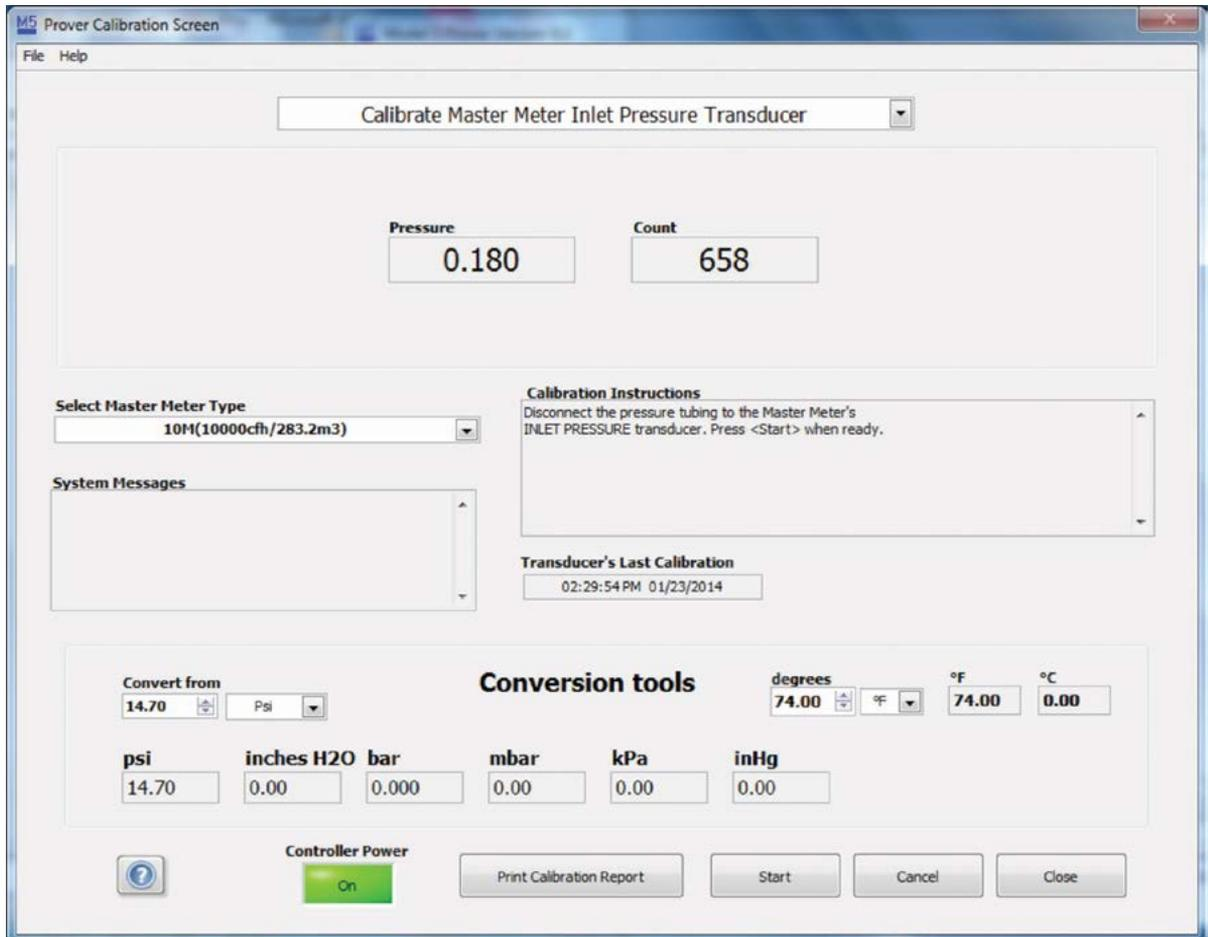

Figure 127: Select Calibrate Master Meter Inlet Pressure Transducer Selection
1. From the Prover Calibration Screen, select the pull down arrow and click “Calibrate Master Meter Inlet Pressure Sensor Transducer.” Refer to **Figure 127**.